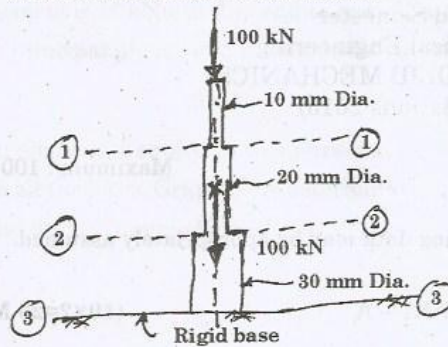

Figure 1
ii) Figure 1 shows the stepped column with loadings. Find the respective stresses at different sections of the column. (7)